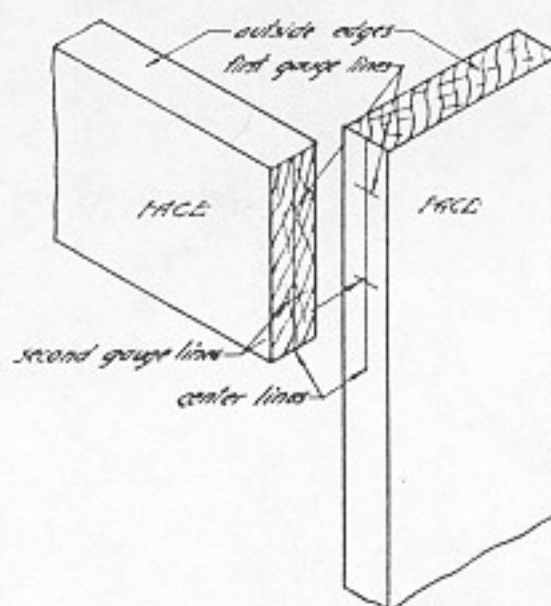

Fig. 218. Layout of doweled butt joint.
3. The number and location of the dowels is determined. If two are used in each joint as in Figure 218, the marking gauge is set equal to the distance between the outside edge and the center of the first hole. Lines are gauged crossing the center lines on both ends of all four pieces. *Gauging is done from the outside edges only.*